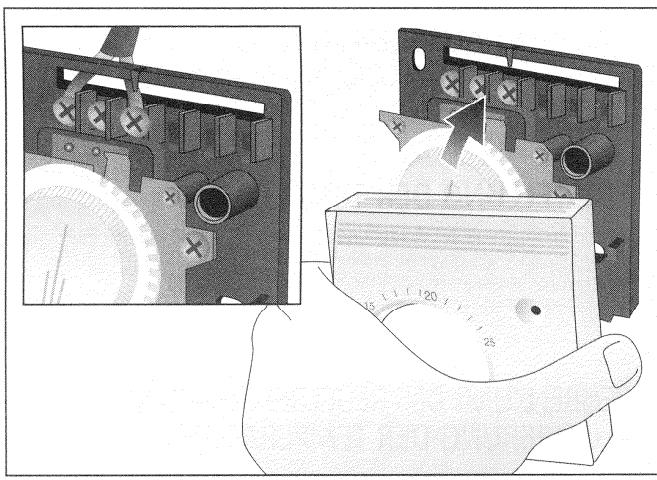

fig.10 - εικ.10
C) Thread the power supply wires through the slot in the base and connect them to the terminals as per the wiring diagram sketched inside the appliance. Snap the front cover back. (fig.10)